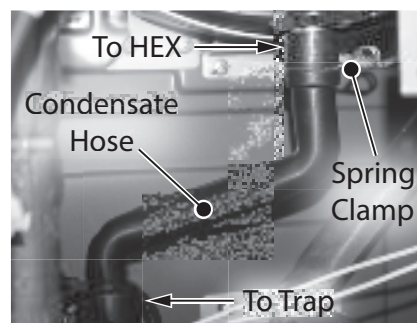

Figure 239 - Condensate hose removal
- 20** Disconnect the black hose from the top of the condensate trap and then from the back of the heat exchanger (HEX). Compress the spring clamp and pull it down along with the black hose. Remove it and dispose of properly. See Figure 239.